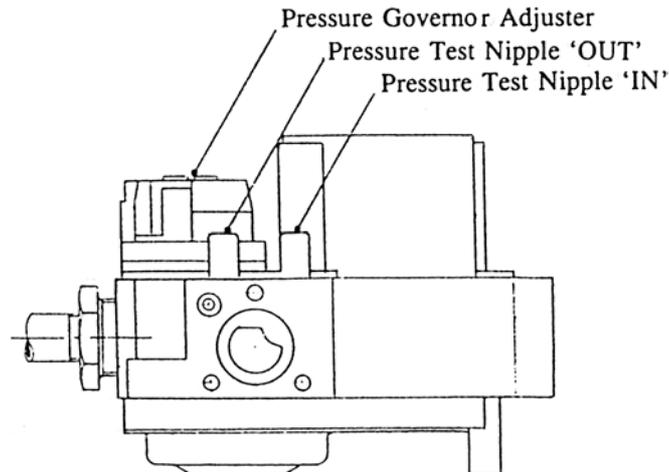

Fig. 8
- 4.3.2.1 Unscrew the sealing screw (two turns) of the Gas Shut-off Valve inlet pressure test nipple (marked 'IN') and connect a manometer to the test nipple. (See fig 8, p10) Turn on the gas supply to the appliance at the union service cock.
- 4.3.3.1 Unscrew the sealing screw (two turns) of the Gas Shut-off Valve outlet pressure test nipple (marked 'OUT') and connect a manometer to the test nipple. (See fig 8, p10)
- 4.3.3.3 In the event that the burner setting pressure is incorrect, remove the cap from the integral pressure governor of the Gas Shut off Valve and insert a suitable screwdriver to locate the governor adjuster. Adjust the pressure by turning the pressure governor adjuster clockwise to increase, or anti-clockwise to decrease the burner setting pressure (see Fig 8).